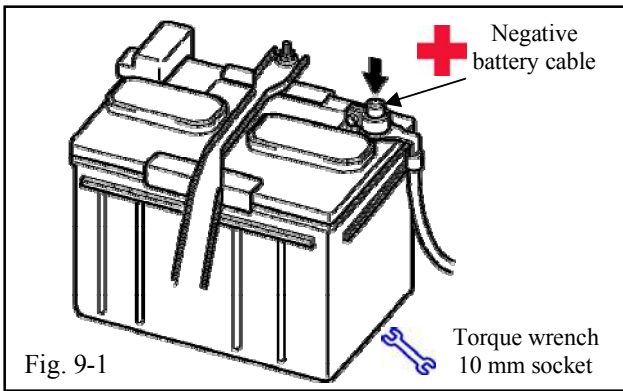

Fig. 9-1
- (a) Temporarily reconnect the negative battery cable. (Fig. 9-1)